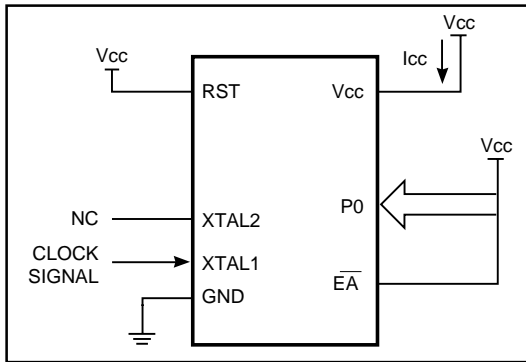

Figure 28. Active Mode
1. See Figures 28, 29, 30, and 31 for I_{cc} test conditions.